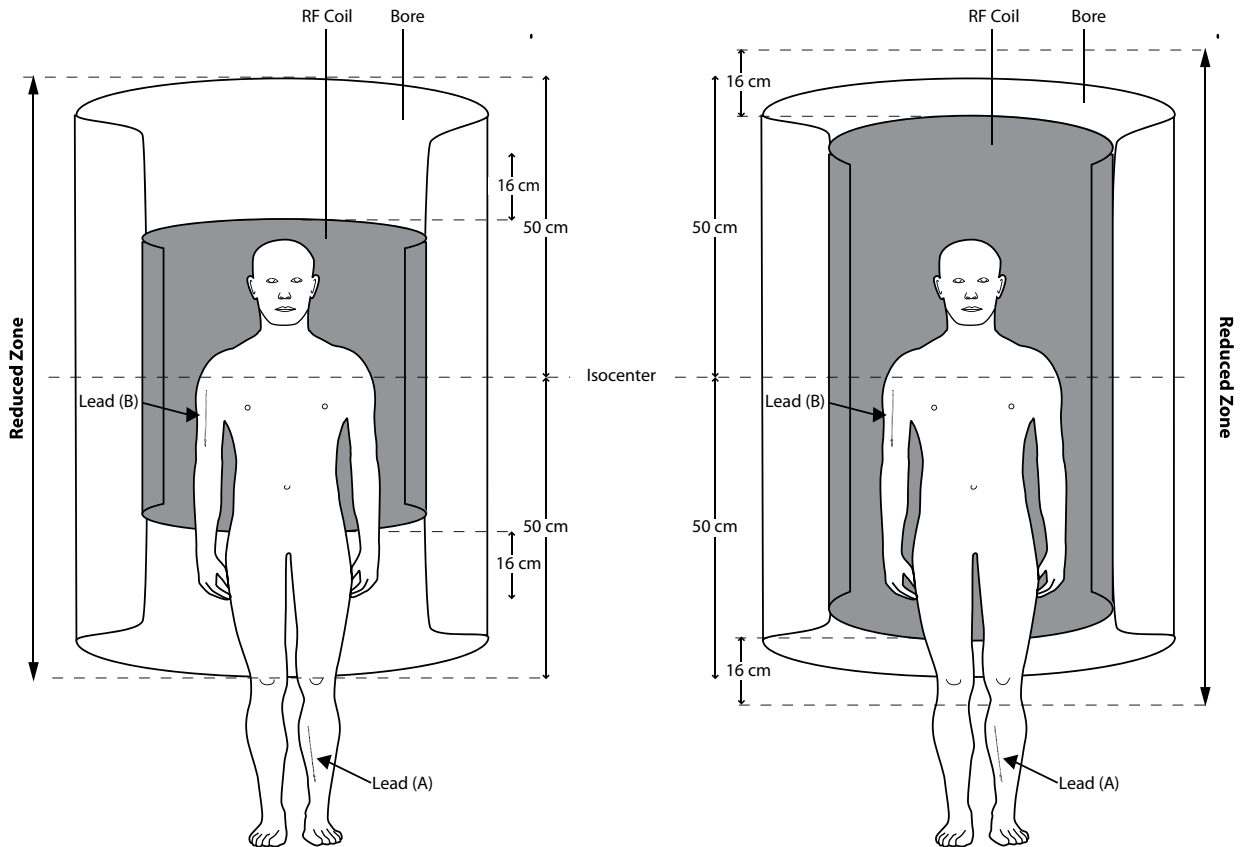

Figure 2-1: Figures show different relationships between the 50 cm measured from the center of the MR bore and the 16 cm measured from the edge of the MR coil.
- Static magnetic field of 1.5 Tesla (T) or 3 T; and
- When the entire StimRouter Lead is at least 50 cm (19.7in.) away from the center of the MR system's bore and at least 16 cm (6.3 in.) from the end of the RF coil (See Figure 2-1), the reported whole body averaged specific absorption rate (WB SAR) does not exceed 2W/kg at 1.5T or at 3.0T; or
In Figure 2-1 the StimRouter Lead (A) implant is **outside** the “Reduced Zone.” The entire StimRouter Lead is at least 50 cm away from the center of the MR system’s bore (the iso-center) and at least 16 cm outside of the MR coil measured from the edge of the MR coil. In Figure 2-1, the StimRouter Lead (B) implant is **inside** the “Reduced Zone.” StimRouter Lead (A) is shown implanted in the lower leg and StimRouter Lead (B) is shown implanted in the arm.